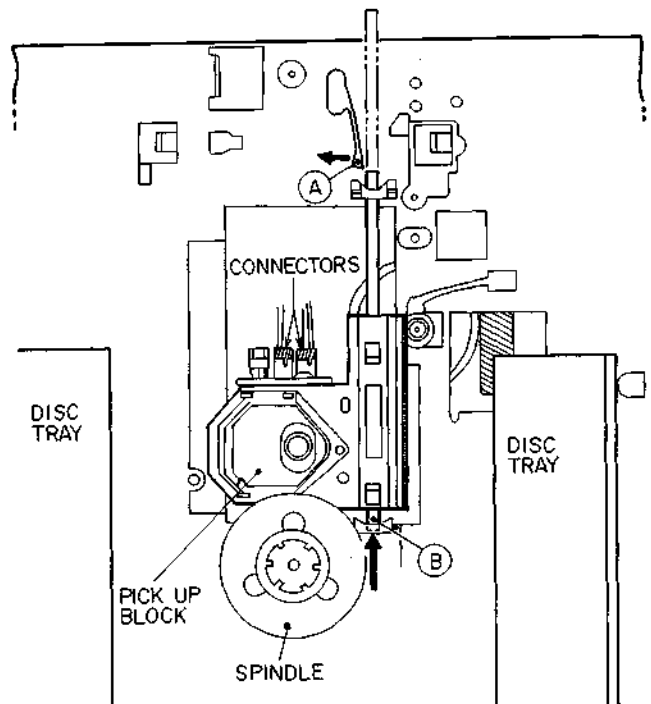

Fig. 5-3
- 1) Open the disc tray and disconnect the connectors on the pick-up block. (Refer to Fig. 5-3)
- 2) Push the (A) part in a ← direction, at the same time, push the (B) part (shaft) in a ← direction, then remove the PICK-UP BLOCK. (Refer to Fig. 5-3)
- 3) Reassemble in reverse order. (Refer to Fig. 5-3)